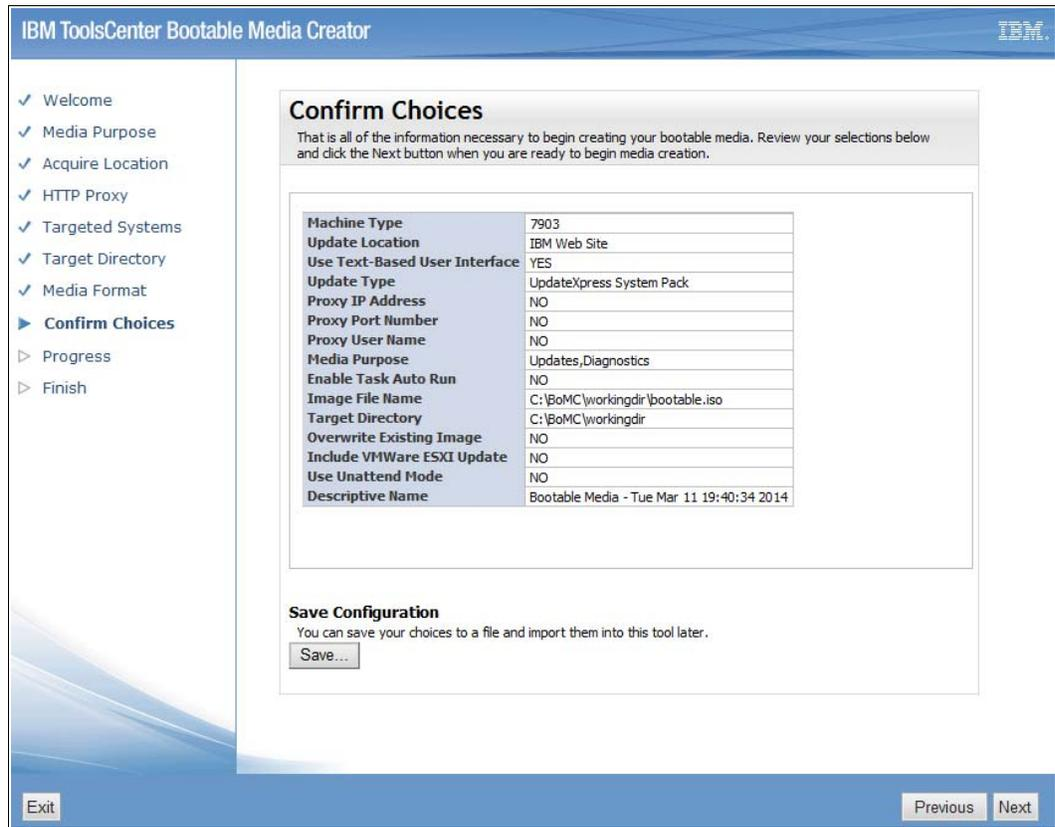

Figure 6-7 BoMC Confirm Choices window
10. In the Confirm Choices window shown in Figure 6-7, confirm your choices in BoMC. Clicking **Save** will save the settings for the next time that they are required.